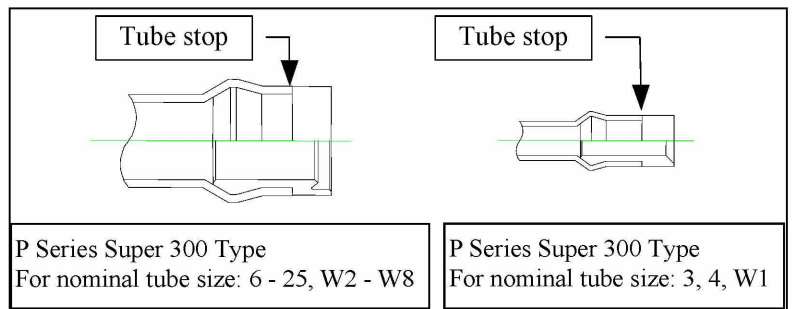

Fig. 4 - Completion of insertion
- Stop inserting the sleeve into the tube when the tube reaches the tube stop of the sleeve (see Fig. 4).